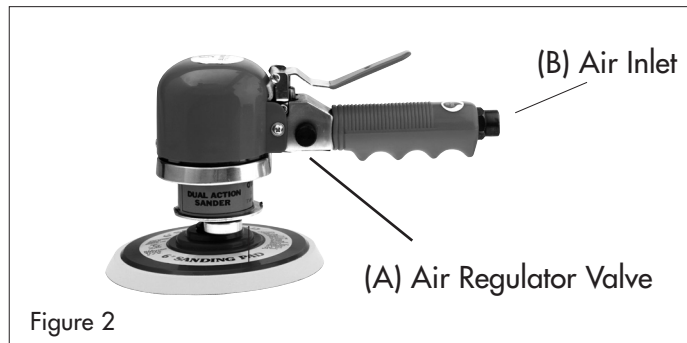

Figure 2
The air inlet (B) Figure 2, used for connecting air supply, has standard 1/4" NPT American Thread.
Lubricate the tool daily with a good grade of air tool oil. If no air line oiler is used, run a teaspoon of oil through the tool. The oil can be squirted into the tool air inlet (B) Figure 2, or into the hose at the nearest connection to the air supply, then run the tool. A rust inhibitive oil is acceptable for air tools.